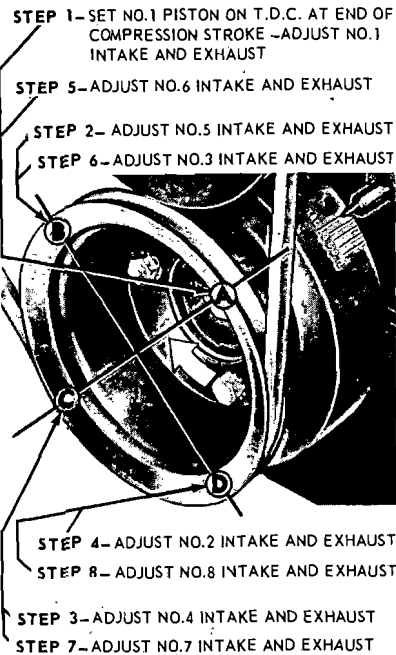

FIG. 16—289 V-8 Valve Clearance Adjustment Points
2. Make three chalk marks on the crankshaft damper (Fig. 16). Space the marks approximately 90° apart so that with the timing mark, the damper is divided into four equal parts (90° represents 1/4 of the distance around the damper circumference).